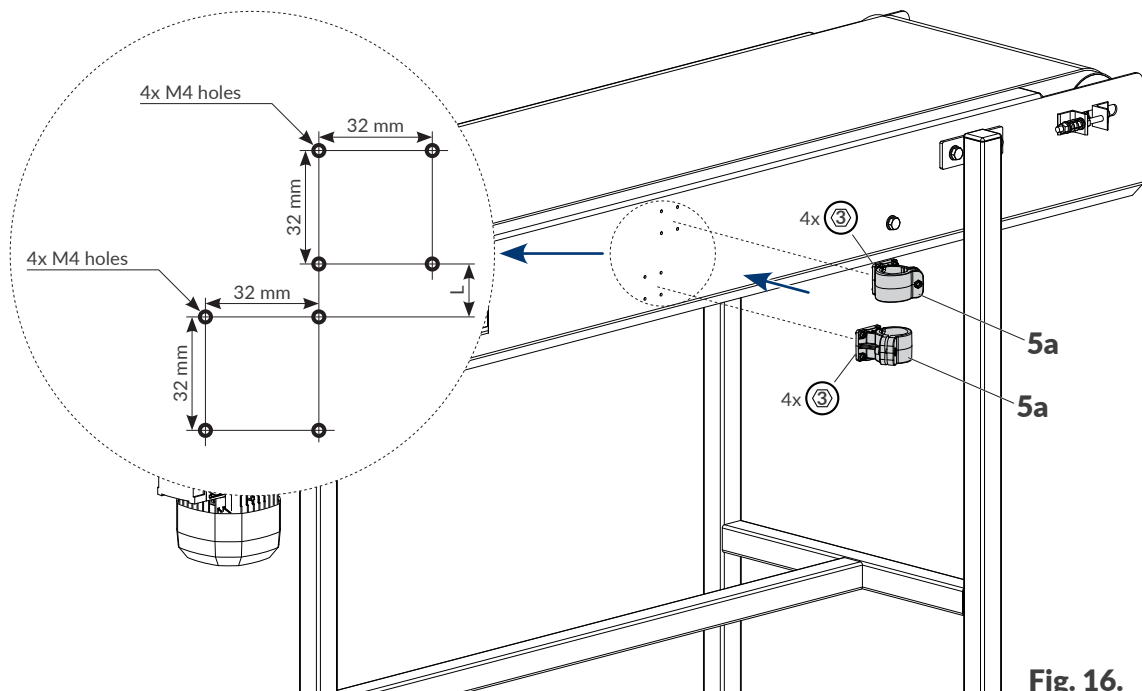

Fig. 16.
1. Prepare appropriate mounting holes in the conveyor frame (see **Fig. 16**).
Assort distance **L** (see **Fig. 16**) depending on the amount of free space available on the conveyor and on the layout of printer components on printer support beam **5**.
2. Fasten holders **5a** to the belt conveyor and position them according to **Fig. 16**. Tighten the screws in holders **5a** with the #3 hex key with a ball tip.